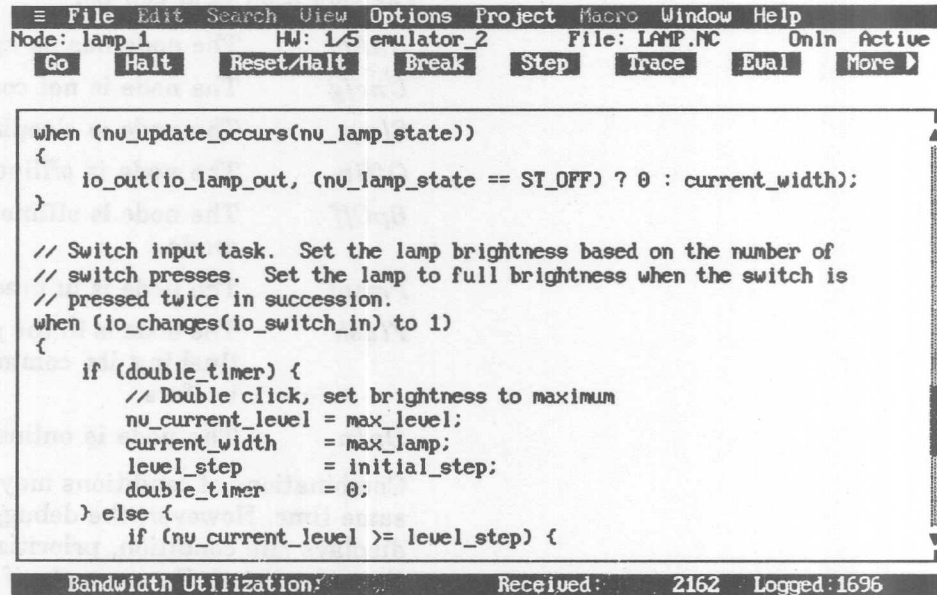

Figure 8-1. Debugger Window
- 8 Select the Debug command button to open the Debugger window (see figure 8-1, earlier) with the NEURON C source file for the selected node. The node's status is *Active*.